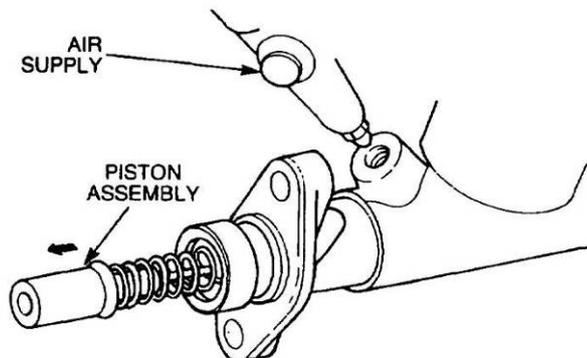

Figure 152 Removal of the Piston Assembly
- c. Remove the piston assembly from the master cylinder (Figure 152). If necessary, apply a low air pressure to the outlet port to expel the piston.